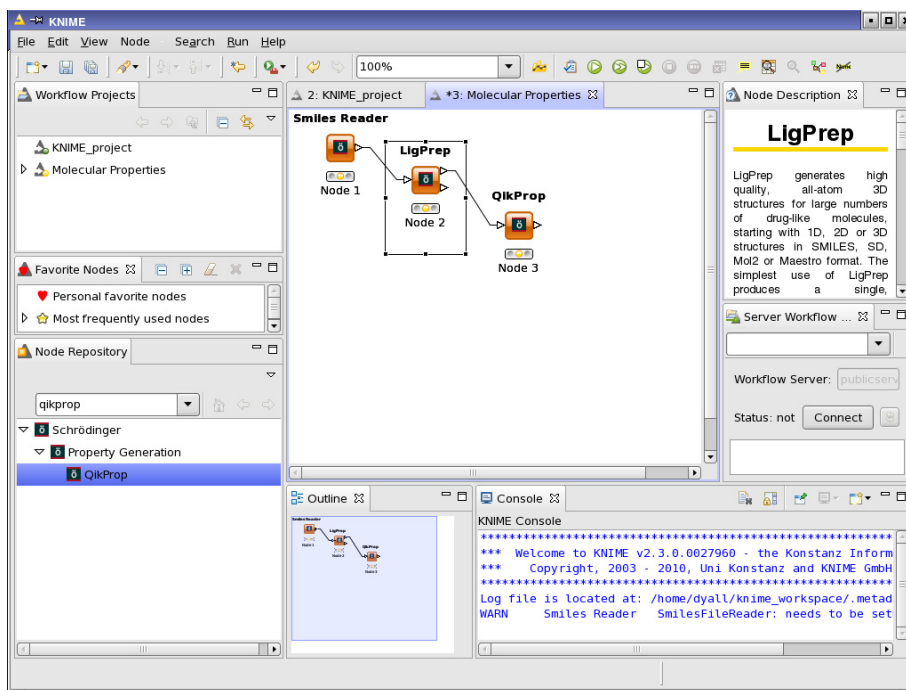

Figure 3.10. The KNIME workbench with the QikProp node connected to the LigPrep node.
6. Connect the LigPrep node to the QikProp node by clicking on the upper of the two small triangles on the right side of the LigPrep node and dragging the pointer over to the small triangle on the left of the QikProp node (see Figure 3.10).